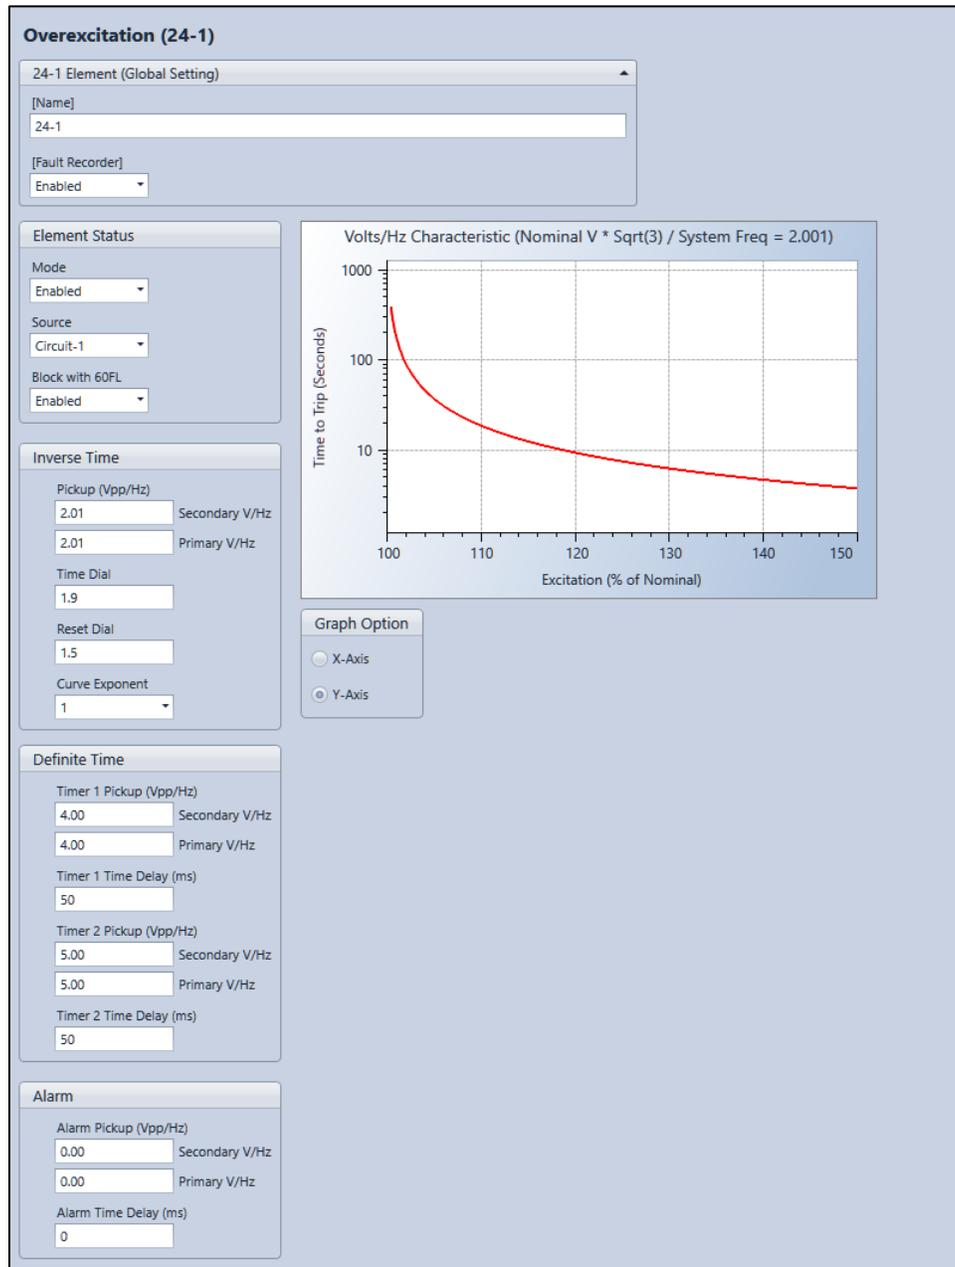

Figure 17-2. Overexcitation Settings Screen
Overexcitation operational settings are configured on the Overexcitation (24) settings screen (Figure 17-2) in *BESTCOMSPlus*.